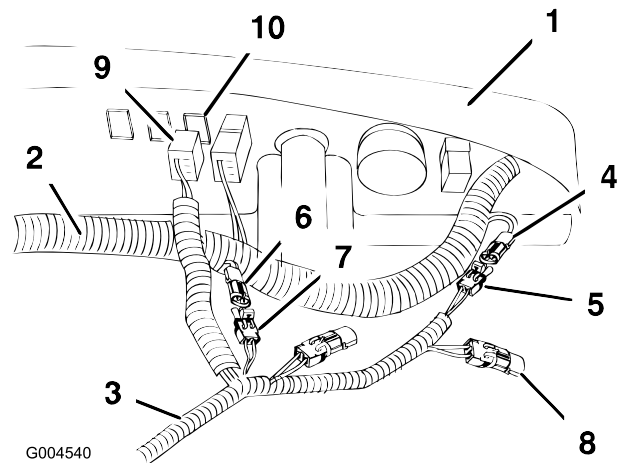

Figure 8
4. Locate the optional 48v output connector as labeled on the main harness and remove the cap. Connect the accessory harness to the 48v output connector as shown in Figure 8.
7. Place the switch connector into position behind the plug in the dash as shown in Figure 8.